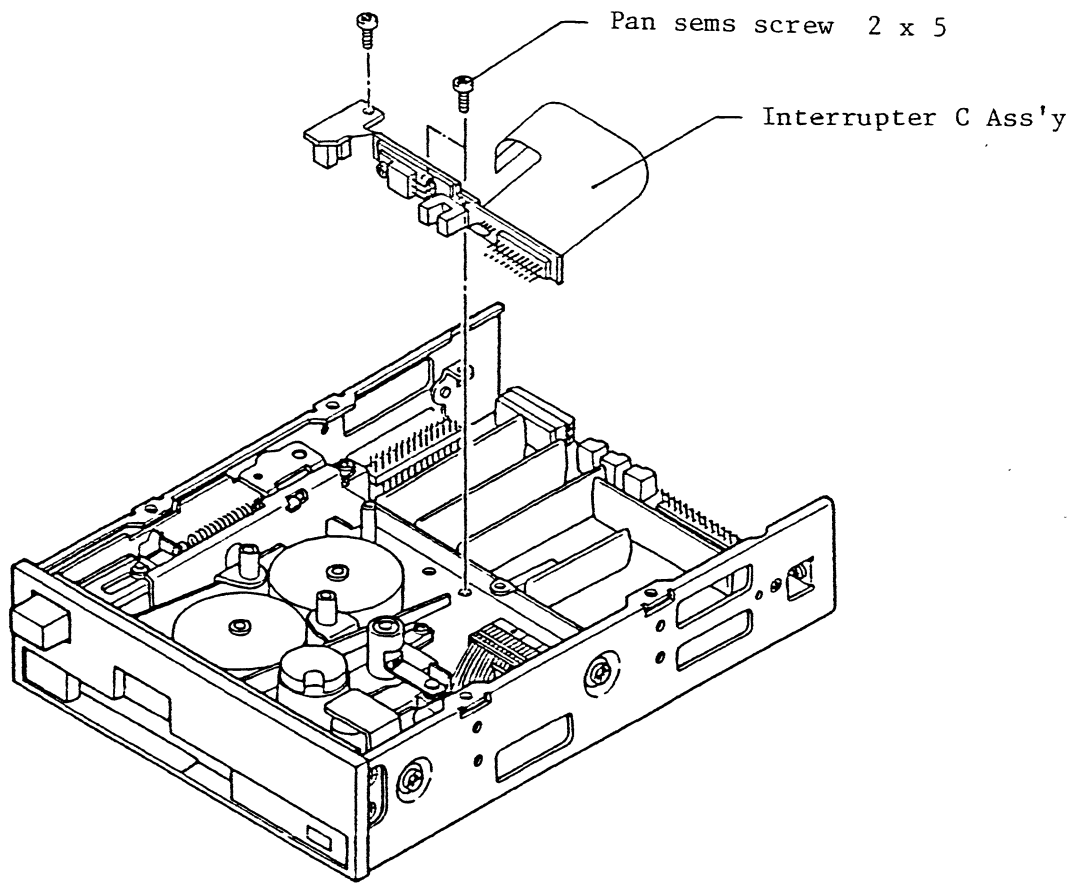

Fig. 438 Replacement of interrupter C Ass'y (1)
- (f) Remove the three mounting screws from the interrupter C Ass'y, and detach the interrupter C Ass'y (Fig. 438).